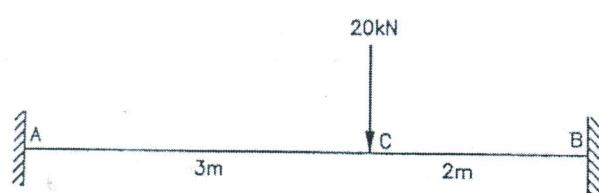

Fig.1
- [B]** Determine the support moments using Moment distribution method for the given beam as shown in fig.1. [5]